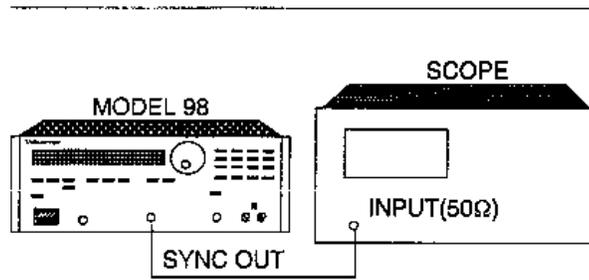

Figure 2-6 SYNC OUT Verification
2. Connect the Model 98 and test equipment as shown in figure 2-6.